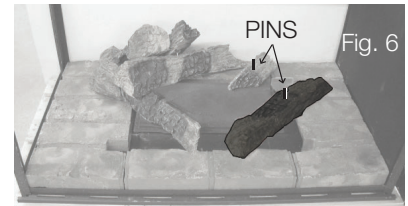

Fig. 6
- Place log #6 onto the pin located on the right side corner of the burner, then place one pin into middle of the log #6 and log #5 **(FIG.6)**.